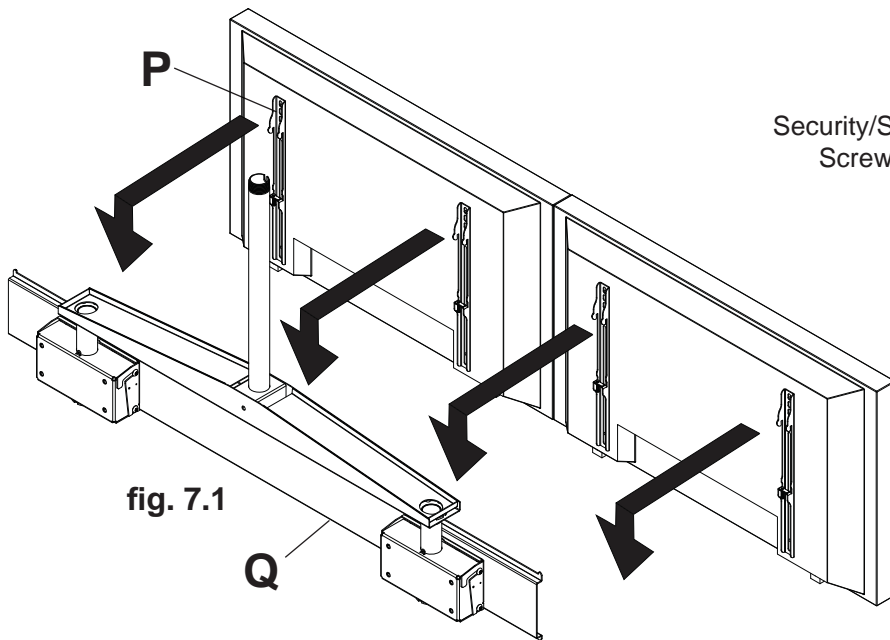
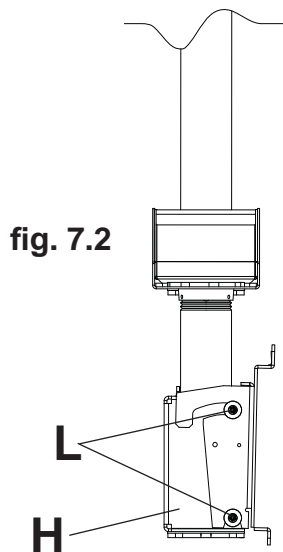

fig. 7.1
fig. 7.2
- 7 Hook adapter brackets (P) to adapter plate (Q) as shown in figure 7.1. Tighten safety/security screws using allen wrench (R) until safety/security screw touches bottom of wall plate as shown in detail 4. To adjust tilt of screens, loosen M10 x 15 mm penta-pin screws (L) of ceiling arm box (H) using M10 penta-pin tool (M) as shown in figure 7.2. Once desired tilt is acquired retighten the screws.